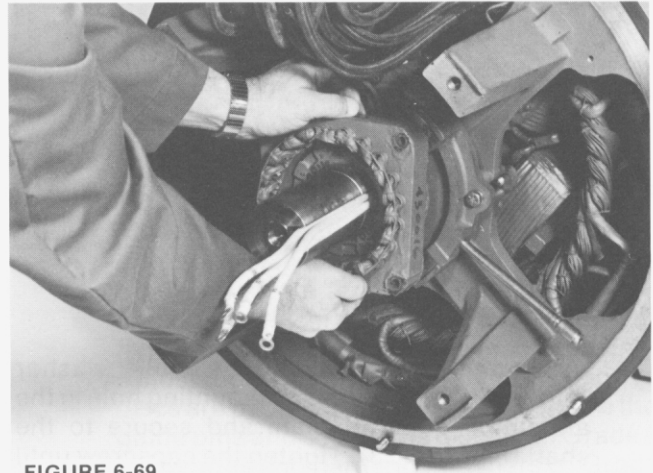

FIGURE 6-69
4. Install the PMG stator on its mounting pads, with the leads in the left (9:00 o'clock) inboard position, and secure with the four mounting capscrews and Belleville washers. (Figure 6-69 and 6-72.) Torque to 4 ft-lb (5 N-m).